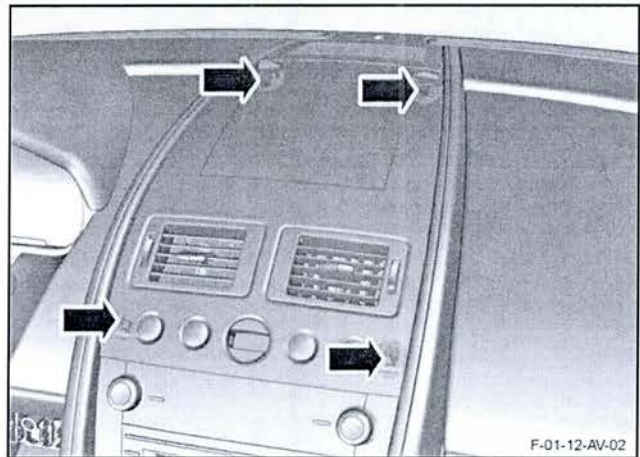

Figure 17
- 28. Put the veneer bezel in position in the IP (refer to Figure 17).